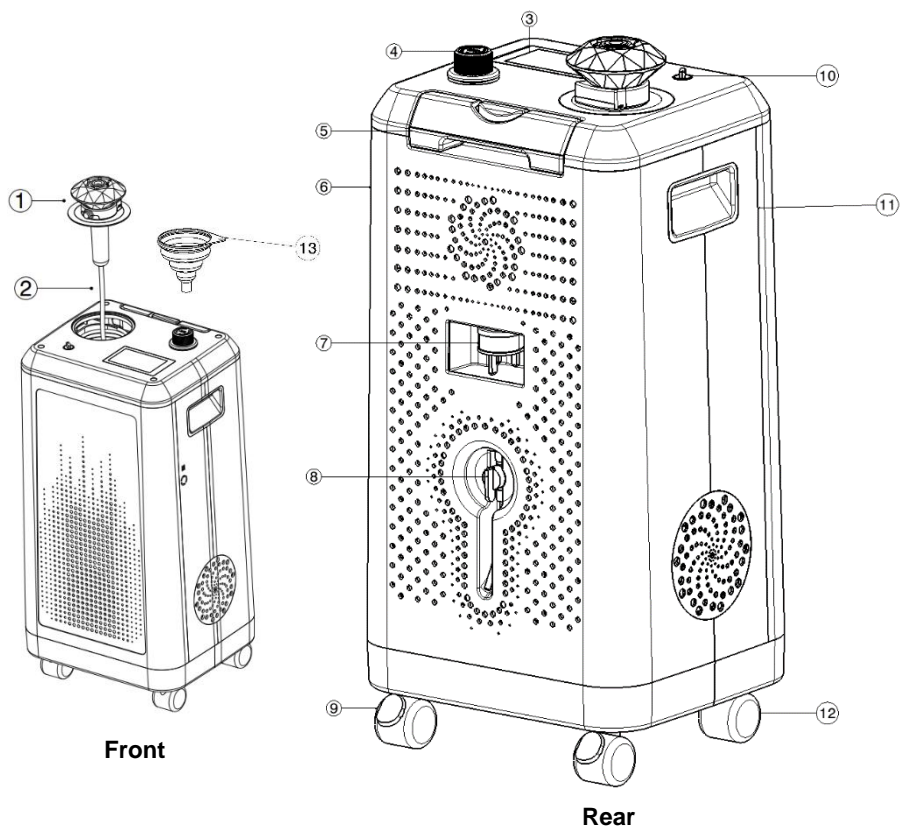

Figure 1.1
- **Do not** cover the NanoJet (Part No. 1 shown in Figure 1.1) while it is in use.
3. Turn the power-switch clockwise on the top of the product (Part No. 10 shown in Figure 1.1) to power it on, and the display screen will illuminate.